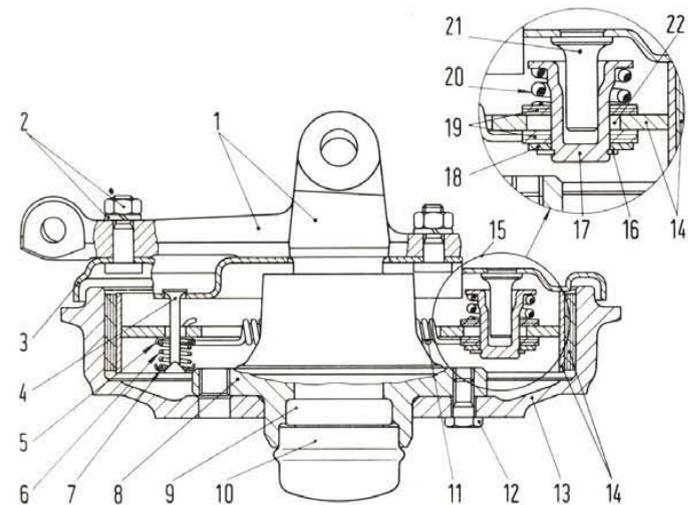

Fig. 293 - Left front wheel sectional view from with No. for spare 802093.
- 1. Wheel cylinder. - 2. Hand brake operating lever and sector. - 3. Hand brake control cable hooking pin. - 4. Shoe guide device. - 5. Shoe return spring. - 6. Shoe with lining. - 7. Brake drum. - 8. Self-centering device (see fig. 293). - 9. Screw holding backing-plate and bearing housing to swingingarm. - 10. Brake drum-to-wheel shaft screw. - 11. Bearing housing. - 12. Wheel shaft. - 13. Shoe guide pin. - 14. Outer cup. - 15. Shoe guide pin spring. - 16. Inner cup. - 17. Backing plate. - 18. Swinging arm.